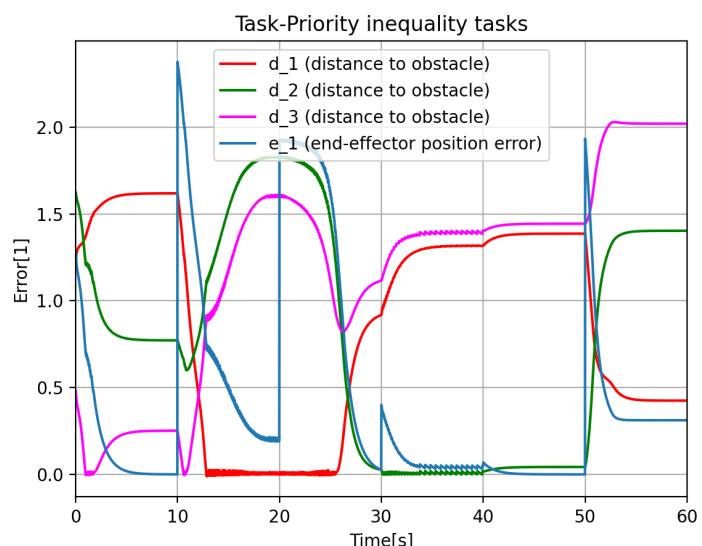

Fig 2. Evolution of the TP control error and distance to obstacles, over time.
- 4) Plot presenting the evolution of task error and obstacle distances over time (three obstacle avoidance tasks, see Fig. 2).